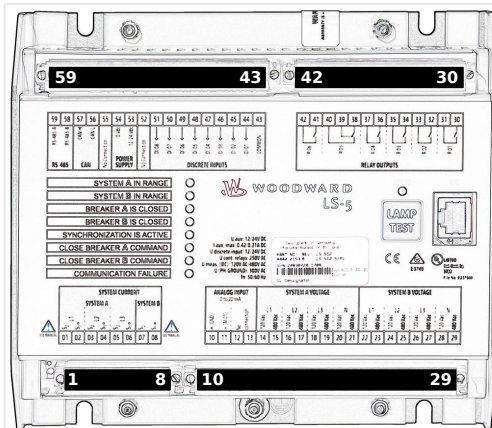

Fig. 19: Sheet metal housing
- Sheet metal housing - shown in Fig. 19